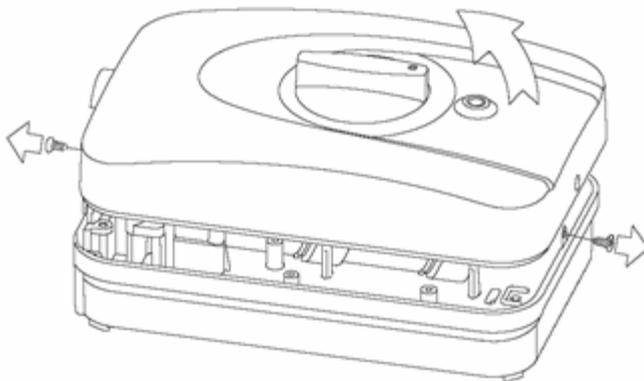

Figure 7 Removing Cover
5.3 Unscrew the retaining screws and lift the cover from the back plate - see figure 7.